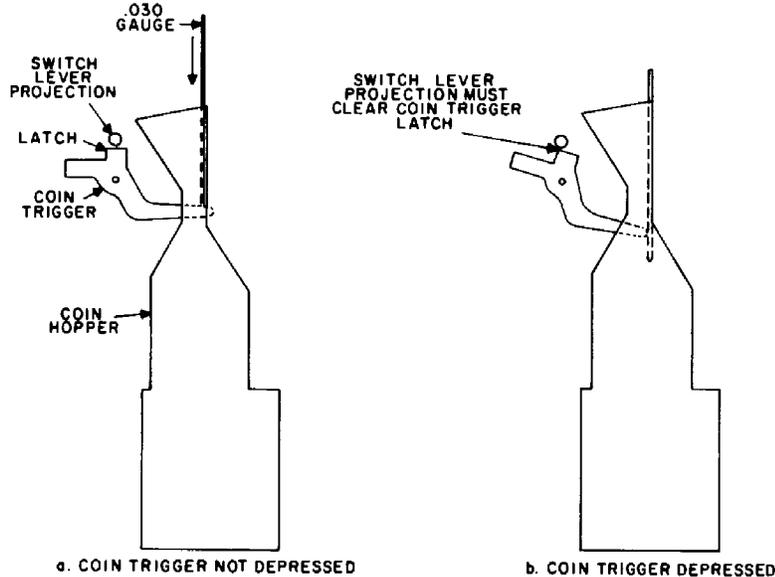

Figure 14. Checking for Clearance Between Switch Lever Projection and Coin Trigger Latch.
- (14) The operating-arm fork, when in normal position, shall bring the vane into a perpendicular position so that the thickness of the vane may be seen through the center hole of the trap bottom as viewed through the mouth of the hopper.
- (15) The operating-arm extension shall be adjusted so that there is clearance between it and the spool head of the collect magnet when the armature is operated fully to the refund position.
- (16) The side play of the switch lever should be from barely perceptible to a maximum of .010 inch, as gauged by eye and feel.
- (17) The switch lever roller should not bind.
- (18) The arm of the switch lever shall rest on the coin trigger approximately on the vertical center line of the pivot for the trigger.
- (19) When the coin trigger is depressed until a .030-inch feeler gauge can be placed between the point of the trigger and the inside rear wall of the coin hopper (see Figure 14), the
- (20) The switch lever should fall freely of its own weight when the force (pressure) of the switch lever restoring spring and the half-round spring are relieved and the trigger is tripped.
- (21) Check that the switch lever roller rises an equal distance above the coin trigger whether the armature is in the collect position or the refund position. If it is necessary to adjust the switch lever roller, raise or lower the roller by bending the horizontal portion of the operating-arm stud.
- (22) The coin trigger must be free of bind on its bearing pins. The coin trigger shall be adjusted so that the side play between the trigger and its supporting bracket shall not exceed .005 inch. The restoring arm, which extends from the operating arm, shall be adjusted so that the switch lever may be safely restored to its normal position with the full stroke of the armature, and to permit the coin trigger to latch the lever.
- (23) With the coin trigger in the tripped position there should be clearance between the trigger and the relay frame, as gauged by eye. The trigger should trip with a maximum of 5 grams of pressure applied midway between the hopper and the coin relay assembly.
- (24) With the coin trigger in the switched position, gradually lifting the switch lever from the trigger cam should cause the trigger to restore.
- (25) After assembly, the extension of the coin trigger shall be located approximately on the vertical center line of the coin hopper slot and shall not touch either of the sides or the top of the slot in its travel up and down with all the side play taken up in each direction, as gauged by eye.
- (26) The switch lever shall be adjusted so that the coin trigger, after being tripped, will safely restore when either of the operating-arm lugs (which limit the armature movement) is given its full travel; but shall not restore when either of the operating lugs is moved downward slowly by hand to within .03 inch of its full downward travel. For the refund position, this is done by applying pressure inside the rounding at the end of the operating-arm lug. For the collect position, the collect magnet armature is operated by hand and the armature retarded at the latch.
- (27) With the operating arm at approximately the centered position of its side play, check for approximate centering of the switch springs on the operating-arm stud. With all the play between the associated parts taken up in the adverse direction, neither the portion of the operating arm adjacent to the stud nor the head of the stud should touch the contact springs or the switch lever at any point of its travel. Gauge by eye and feel. If adjustment is necessary, realign the spring pile-up.
- (28) Check and, if necessary, correct the vertical position of the switch assembly so that the half-round of the curved contact spring centers the operating-arm stud. Retighten the positioning screws.